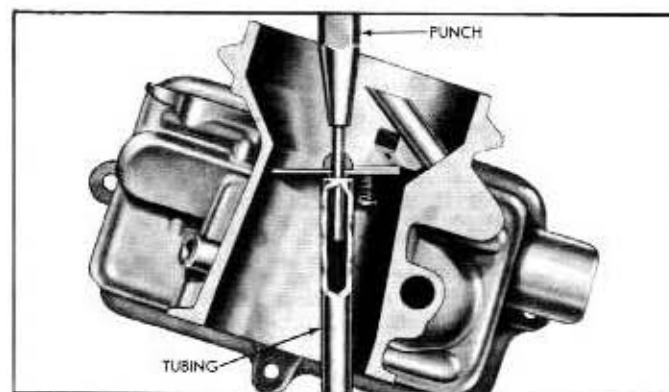

Fig. 9C-13—Distribution Pin Removal—(9E-7106)
15. If it is necessary to remove the choke plate or shaft, drive the fuel distribution pin out of the shaft. See figure 9C-13. Remove the two choke plate screws, and slide the choke plate out of the slot in the choke